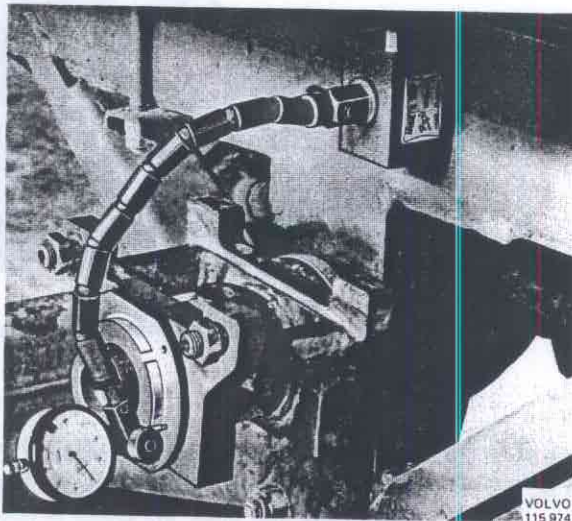

Fig. 76-14. Measuring the axial clearance
7. Position a dial indicator according to Fig. 76-14. Turn the cradle while pressing it inwards at the same time and zero-set the dial indicator. Turn the cradle and pull it outwards. Read off the clearance. The correct clearance should be 0.1 mm (0.0039"). If necessary, adjust the clearance. When correct clearance has been obtained, lock both the nuts with the lock washer.